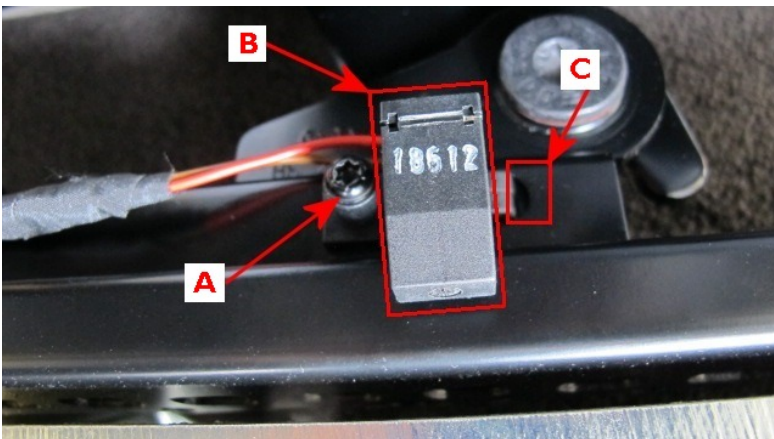

Figure 3
- Referring to Figure 3 - Point A - Change the proximity sensor screw using part number N907 321 03
2. Once the Basic settings procedure is complete on both front seats, re-check the overall condition of both sensors to confirm that both are as shown in Figures 3 and 4